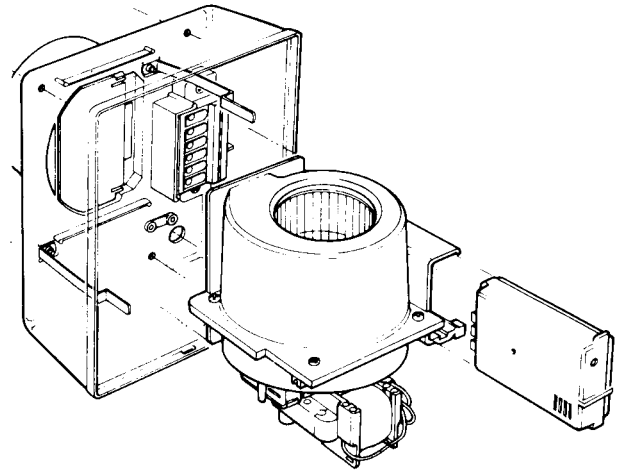

Fig. 4. Electronic control module and Fan/Motor assembly
2. Remove the plug-in electronic control module (fig.4).